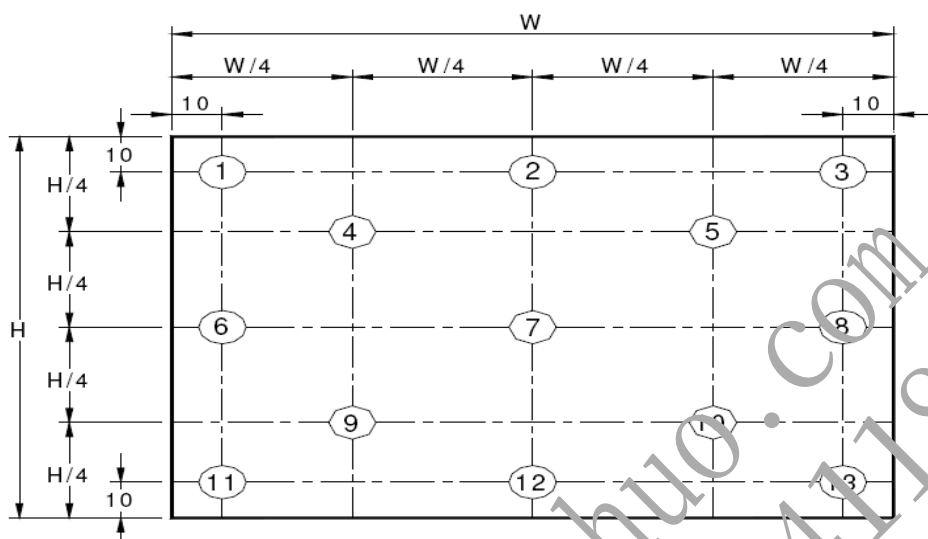

Figure 9. Uniformity Measurement Locations (13 points)
Notes : - Viewing angle is the angle at which the contrast ratio is greater than 10. The viewing angles are determined for the horizontal or 3, 9 o'clock direction and the vertical or 6, 12 o'clock direction with respect to the optical axis which is normal to the LCD surface (see Figure 7). - Contrast measurements shall be made at viewing angle of $\Theta = 0$ and at the center of the LCD surface. Luminance shall be measured with all pixels in the view field set first to white, then to the dark (black) state . (see Figure 7) Luminance Contrast Ratio (CR) is defined mathematically. $CR = \frac{\text{Luminance when displaying a white raster}}{\text{Luminance when displaying a black raster}}$ - Center Luminance of white is defined as luminance values of 5 point average across the LCD surface. Luminance shall be measured with all pixels in the view field set first to white. This measurement shall be taken at the locations shown in Figure 8 for a total of the measurements per display. - The White luminance uniformity on LCD surface is then expressed as : $\Delta Y = \text{Minimum Luminance of 5(or 13) points} / \text{Maximum Luminance of 5(or 13) points.}$(see Figure 8 and Figure 9). - The color chromaticity coordinates specified in Table 5 shall be calculated from the spectral data measured with all pixels first in red, green, blue and white. Measurements shall be made at the center of the panel. - The electro-optical response time measurements shall be made as Figure 10 by switching the “data” input signal ON and OFF. The times needed for the luminance to change from 10% to 90% is T_r, and 90% to 10% is T_f. - Cross-Talk of one area of the LCD surface by another shall be measured by comparing the luminance (YA) of a $10 \pm 1\text{mm}$ diameter area, with all display pixels set to gray 127(of 0 to 255), to the luminance (YB) of that same area when any adjacent area is driven dark.The luminance ratio shall not exceed 1:1.05 (See Figure 11).
The White luminance uniformity on LCD surface is then expressed as : $\Delta Y5$ = Minimum Luminance of five points / Maximum Luminance of five points (see Figure 8), $\Delta Y13$ = Minimum Luminance of 13 points / Maximum Luminance of 13 points (see Figure 9).